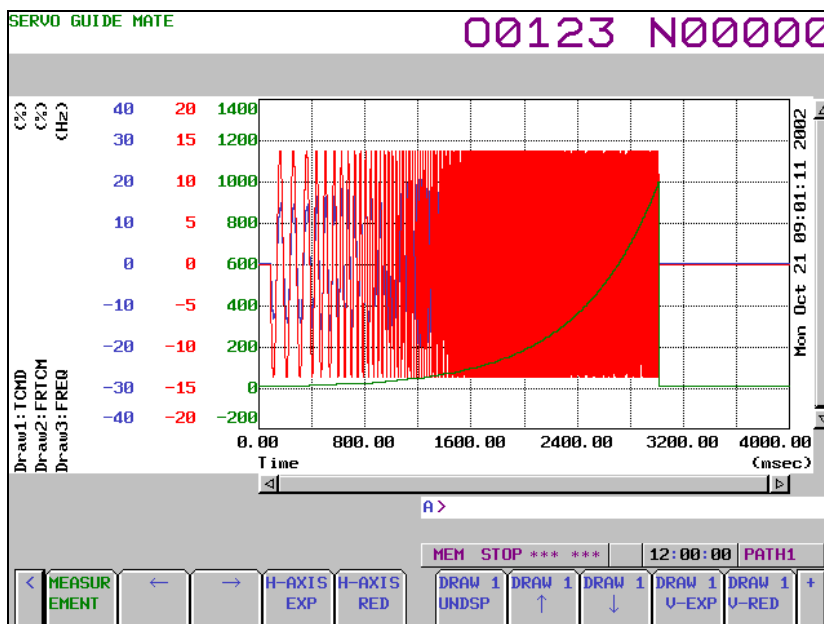

Fig. 1.9.1.1 (f)
- 29 When the measurement is completed, the wave display screen is displayed as shown Fig. 1.9.1.1 (f).